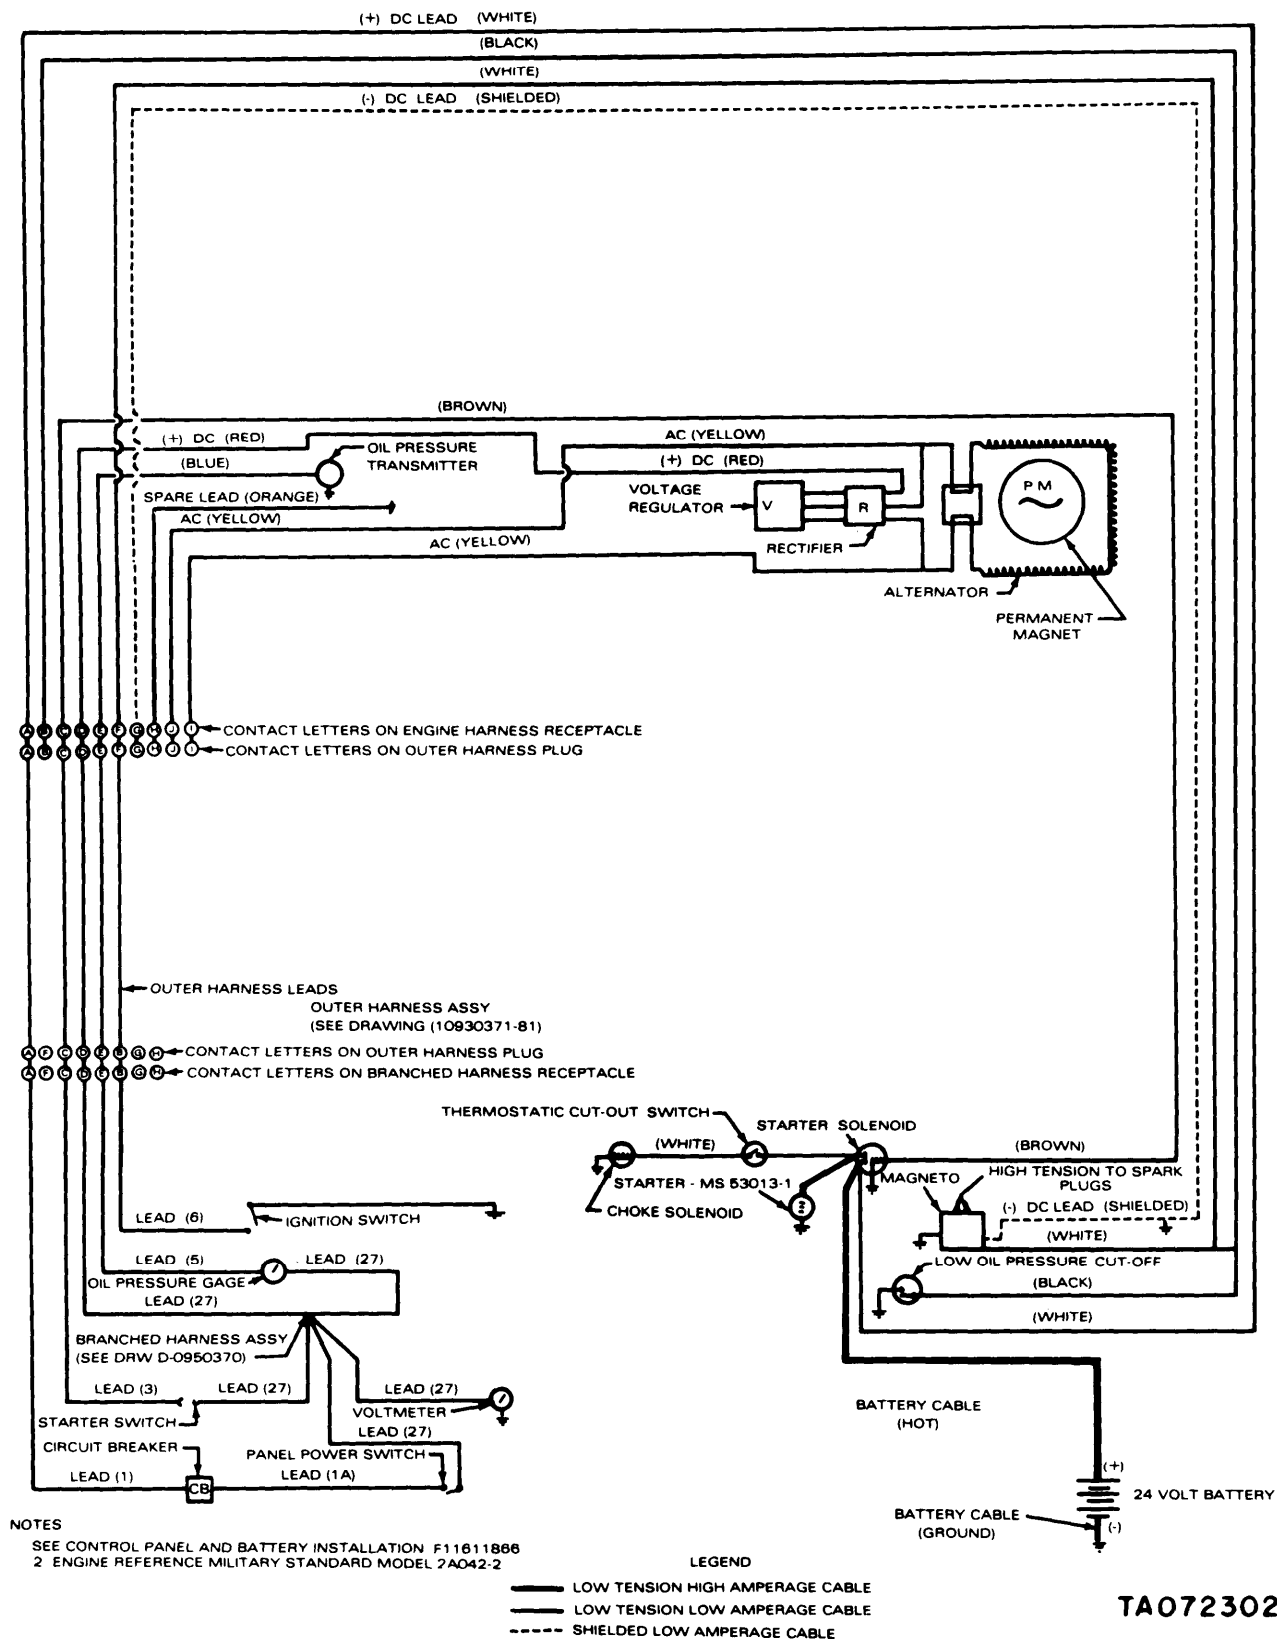

Figure 4-5. Wiring diagram-engine and controls circuit- M131A5C.
b. The 24-volt system is operated and controlled from the towing vehicle. This system supplies current for the service and blackout marker lights, and for the service and blackout taillights and stoplights. The system is protected by a circuit breaker mounted in the towing vehicle. Refer to figures 4-5 and 4-6 for wiring diagrams,